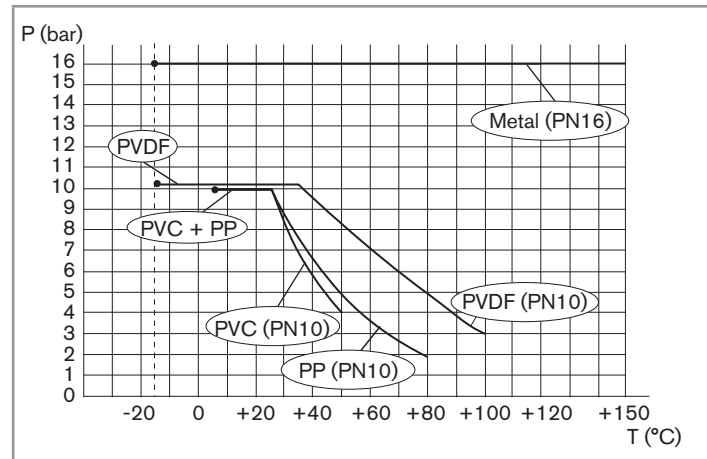

Fig. 7.1: Fluid temperature/pressure dependency curves for T-fittings used on their own
- Take account of the temperature/fluid pressure dependency according to the nature of the materials from which the fitting is made (see Fig.7.1) and that of the measuring device used (see the relevant user manual).